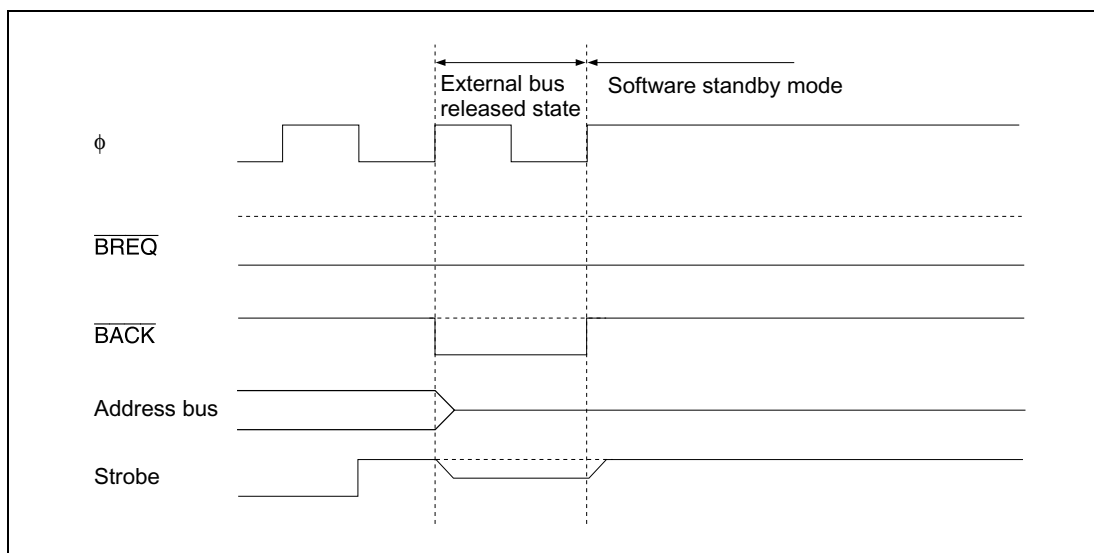

Figure 7.25 Contention between Bus-Released State and Software Standby Mode
- If there is contention with a bus request from an external bus master when making a transition to software standby mode, a one-state bus-released state may occur immediately before the transition to software standby mode (see figure 7.25).